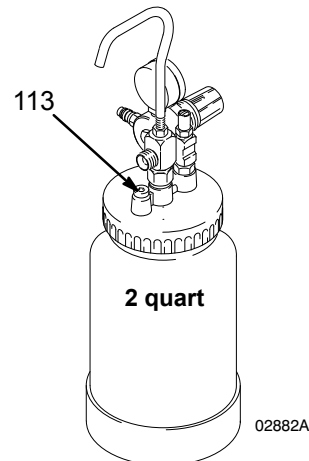

Fig. 3
- b. *2 Quart Remote Pot*: Turn out the pressure relief knob (113) about one turn. Wait until pressure is completely relieved before removing the cover. Close the knob before using the system again. See Fig. 3.